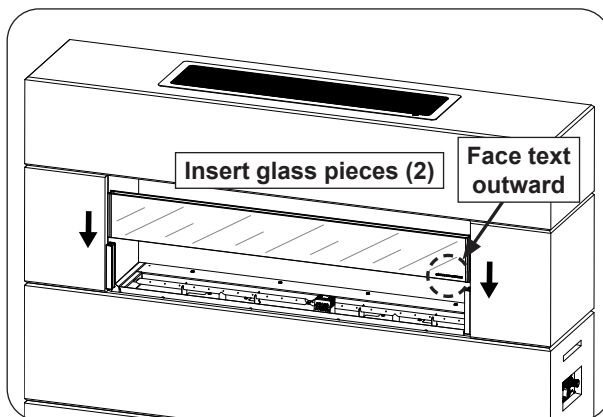

Fig. 32-3 Insert wind guard glass pieces
3. Insert the two glass pieces as shown in Fig. 32-3.